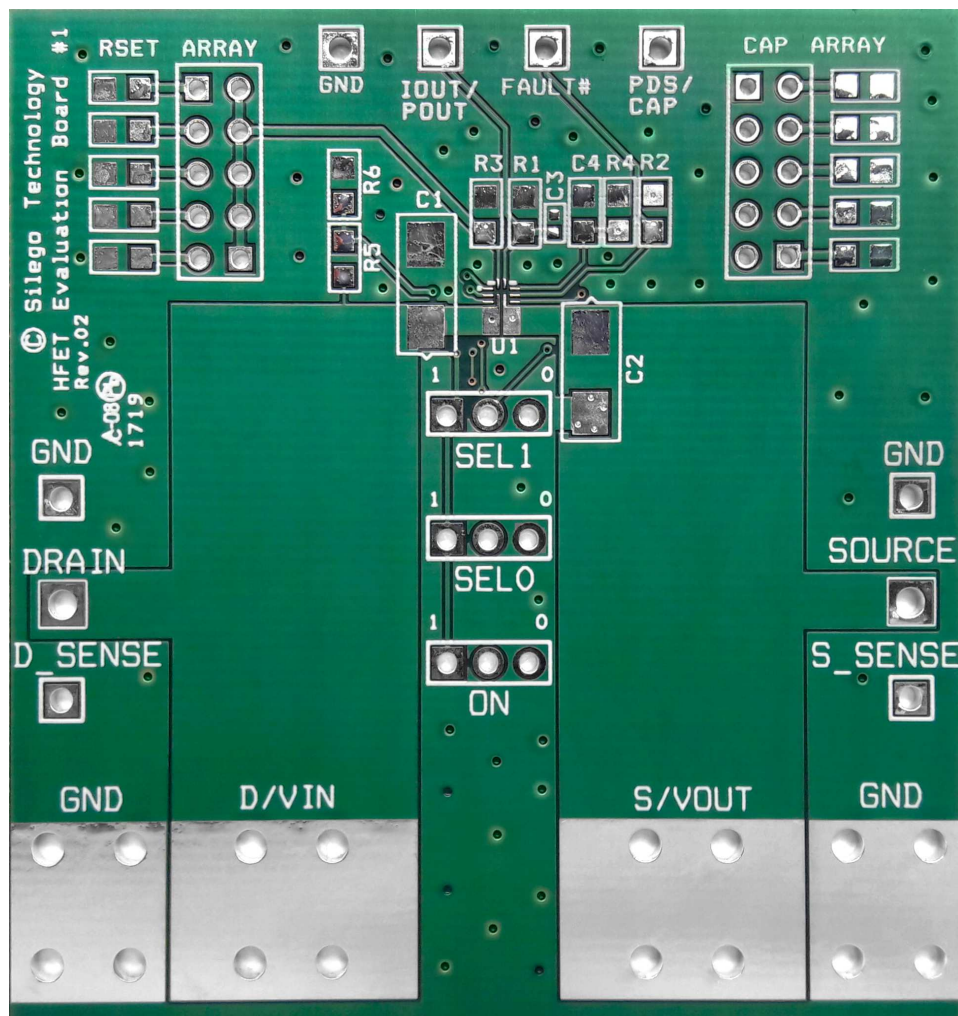

Figure 43. SLG59H1019V Evaluation Board
1. Since the VIN and VOUT pins dissipate most of the heat generated during high-load current operation, it is highly recommended to make power traces as short, direct, and wide as possible. A good practice is to make power traces with absolute minimum widths of 15 mils (0.381 mm) per Ampere. A representative layout, shown in Figure 43, illustrates proper techniques for heat to transfer as efficiently as possible out of the device;
A High Voltage GreenFET Evaluation Board for SLG59H1019V is designed according to the statements above and is illustrated on Figure 43. Please note that evaluation board has D\_Sense and S\_Sense pads. They cannot carry high currents and dedicated only for  $R_{DS(ON)}$  evaluation.